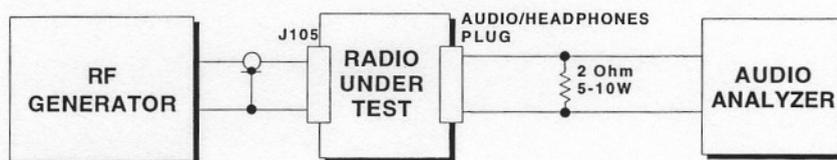

Figure 2. Receiver Test Setup
The frequency accuracy of the radio depends only on the frequency accuracy of the 9.105 MHz reference oscillator, located on the A board (see Figure 2 in the Description section of this manual). The oscillator has a normal aging of maximum 1 PPM/year. It is therefore
3.2.2 Receiver Test (See Figure 2)